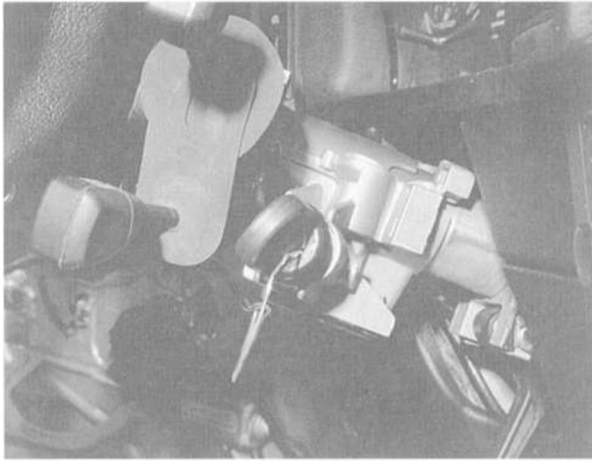

Fig. 5. Lock cylinder being released.
2. Insert a thin piece of stiff wire into opening in lock cylinder and pull lock cylinder out. See Fig. 5.